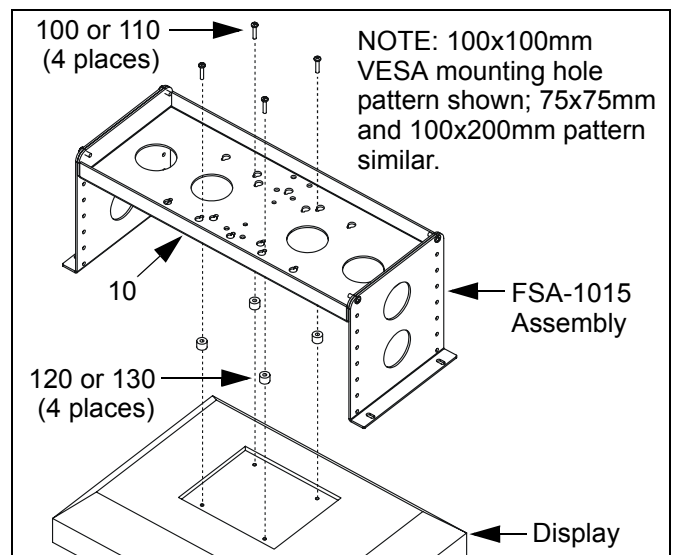

Figure 6: Install Display - Recessed Mount
- Pick up and orient the FSA-1015 assembly such that the mounting holes in bracket (10) are aligned with the holes in the spacers (See Figure 6).